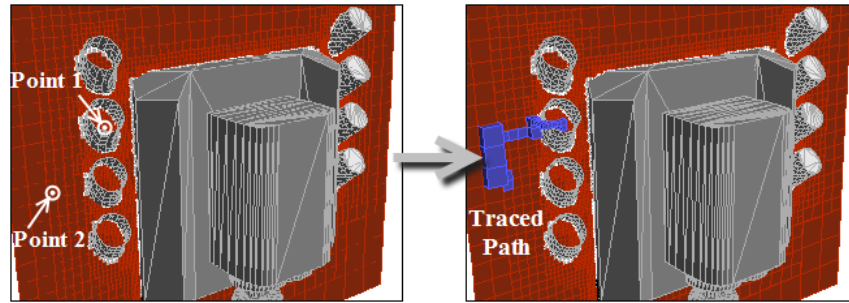

Figure 8.5.3: Trace Path
3. Specify a pair of points, one “inside” and the other “outside” the geometry (see Figure 8.5.3). You can either enter the locations manually, or click the Select Points... button and select the points using the mouse.
4. Click Trace (Figure 8.5.3).